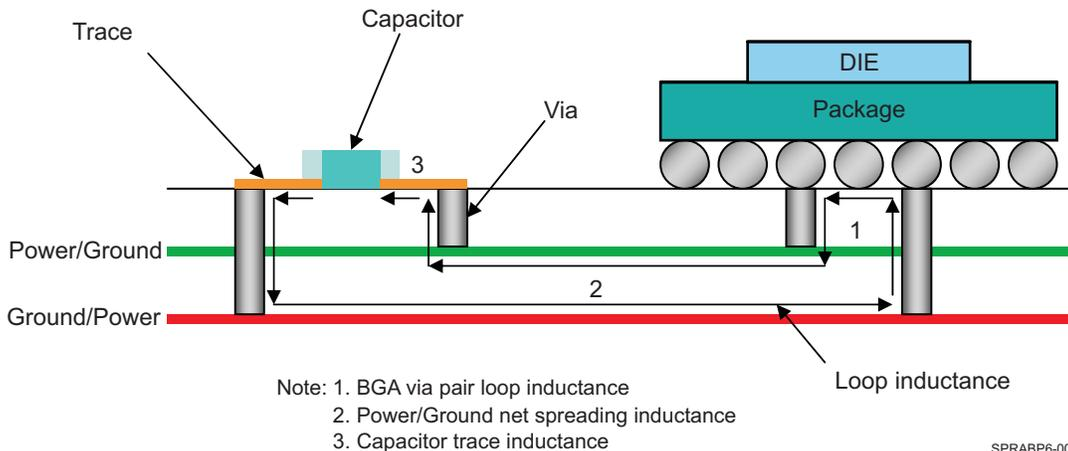

图 8-1. Minimize Loop Inductance With Proper Layer Assignment
- Optimize the power and ground plane pair carrying high current supplies to key component power domains as close as possible to the same surface where these components are placed (see 图 8-1). This will help to minimize "loop inductance" encountered between supply decoupling capacitors and component supply inputs and between power and ground plane pairs.
The placement of power and ground planes in the PCB stackup (determined by layer assignment) has a significant impact on the parasitic inductances of power current path as shown in 图 8-1. For this reason, it is recommended to consider layer order in the early stages of the PCB PDN design cycle, putting high-priority supplies in the top half of the stackup (assuming high load and priority components are mounted on the top-side of PCB) and low-priority supplies in the bottom half of the stackup as shown in the examples below (vias have parasitic inductances which impact the bottom layers more, so it is advised to put the sensitive and high-priority power supplies on the top/same layers).
Wherever possible, mount the capacitor with the geometry that minimizes the mounting inductance and resistance. This was shown earlier in 图 8-1. The capacitor mounting inductance and resistance values include the inductance and resistance of the pads, trace, and vias. Whenever possible, use footprints that have the lowest inductance configuration as shown in 图 8-15